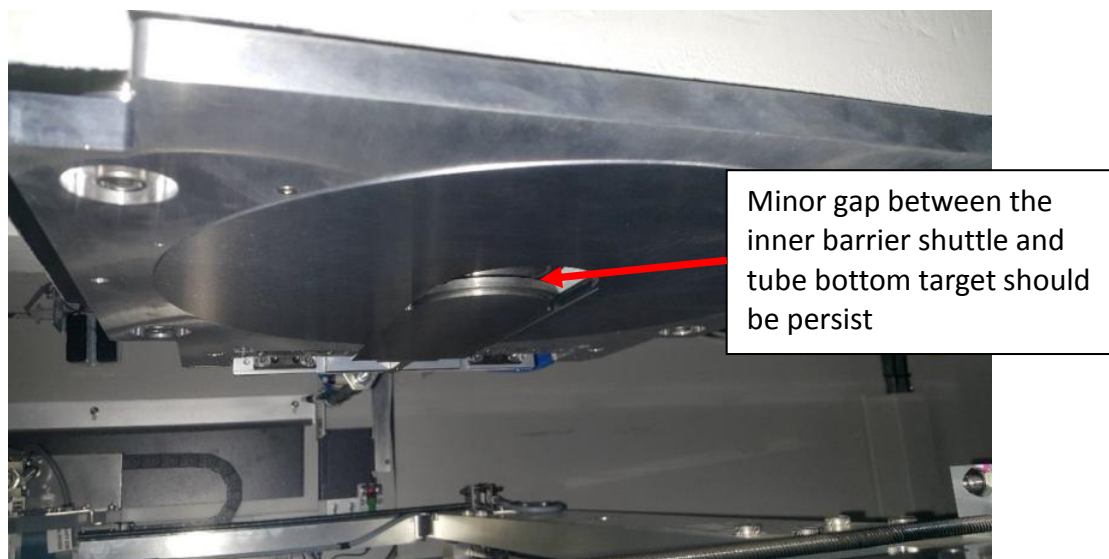

Figure 13
14. Manually push and pull the inner barrier shutter plate, ensure the shuttle plate do not contain friction with tube bottom target as Figure 13